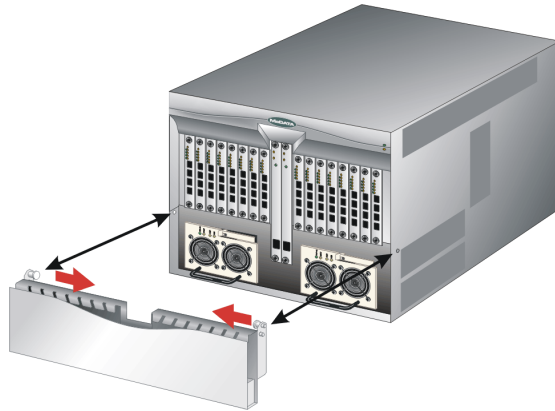

Figure 4-3: Cable Management Assembly Removal and Replacement
3. Two captive pins secure the assembly to the chassis as shown in Figure 4-3. Pull both pins inward to release the assembly, then pull the assembly away from the front of the Director.
1. Position the cable management assembly at the front of the Director chassis as shown in Figure 4-3 on page 4-5.